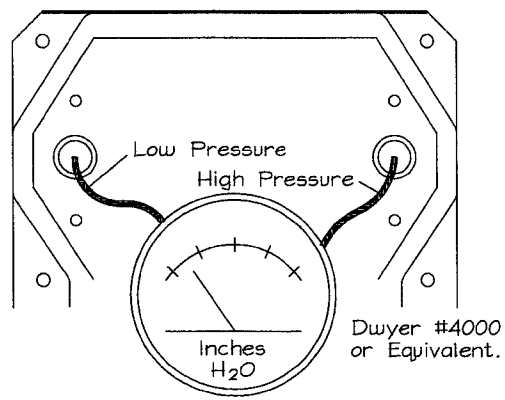

Figure 3: ISN-550 Detector - Differential Pressure Test.
1. Test using an appropriate instrument such as the Dwyer model 4000 or equivalent differential pressure gauge. Set up for the test by placing the instrument pressure tubes into #0 rubber stoppers. (See Figure 3.)